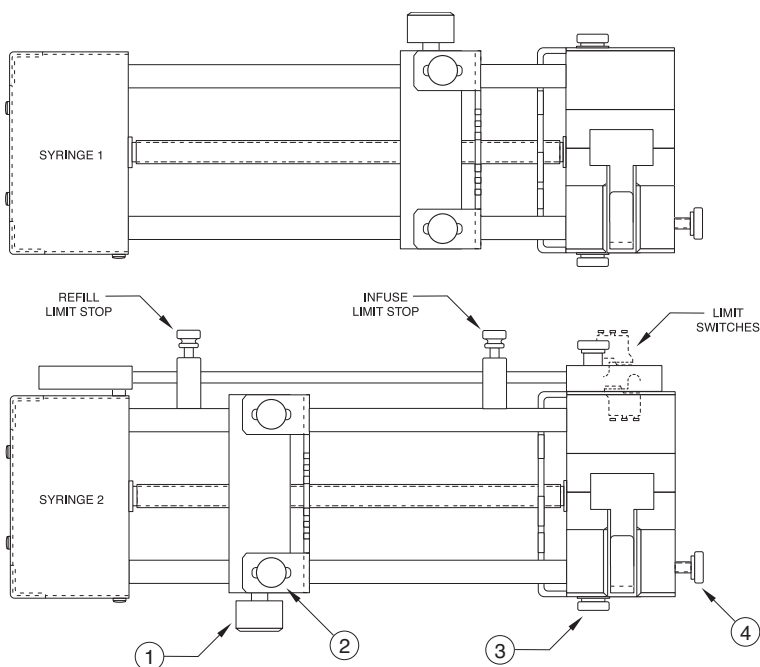

Figure 1. Syringe Loading
2. Loosen the screws on the syringe block and pusher block to free the retaining brackets (2 and 3, Figure 1)
3. To free the pusher block from the leadscrew, turn the knob on the front of the block (1) until the pin in the knob slips into the hole in the block.
4. The syringe clamp locking screw on the right side of the syringe block (4) should be loosened and the clamp rotated to the side.
7. Rotate the syringe clamp and press down firmly on the syringe barrel. Secure in place by tightening the locking screw (4).